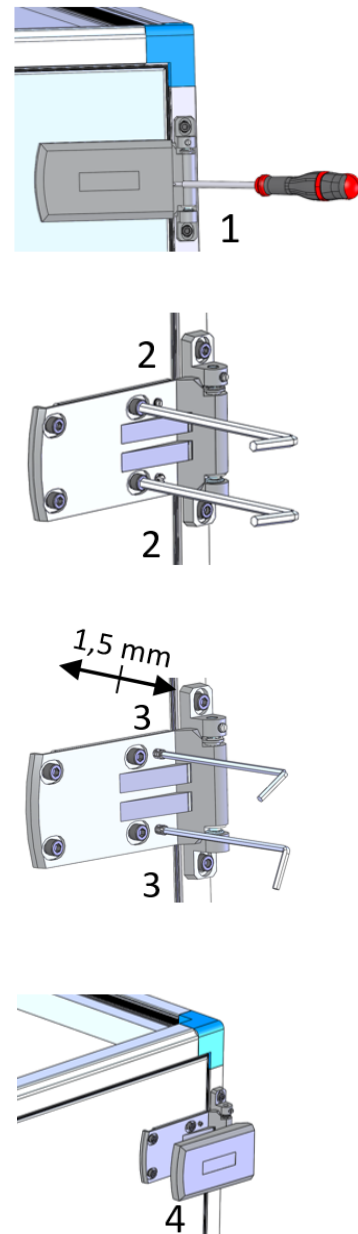

Figure 35
- In case the sealing is not fitted between door panel and housing with the optimum pressure to ensure tightness, proceed as shown in Figure 35.
- Remove protective PVC cover from the hinge (1)
- Loosen screws (2)
- By loosening / tightening the screws adjust sealing (3)
- Tighten screws (2)
- Place PVC cover back on the hinge (4)